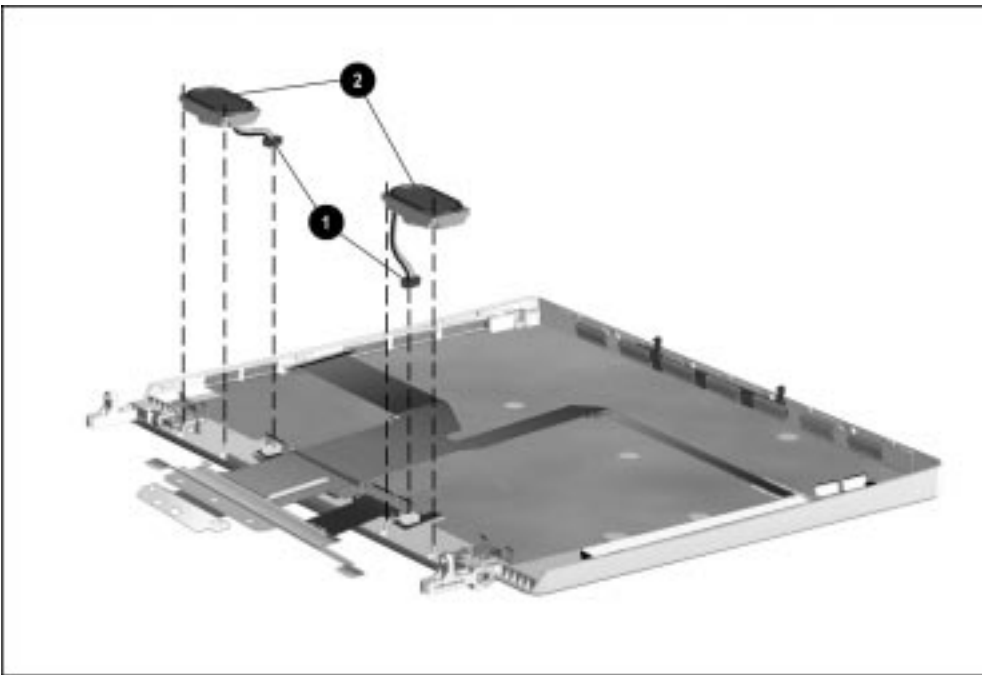

Figure 5-67. Removing the Speaker Assemblies
8. Disconnect the speaker cable ❶ from the display audio cable and remove the speaker from the display enclosure ❷ (Figure 5-67).